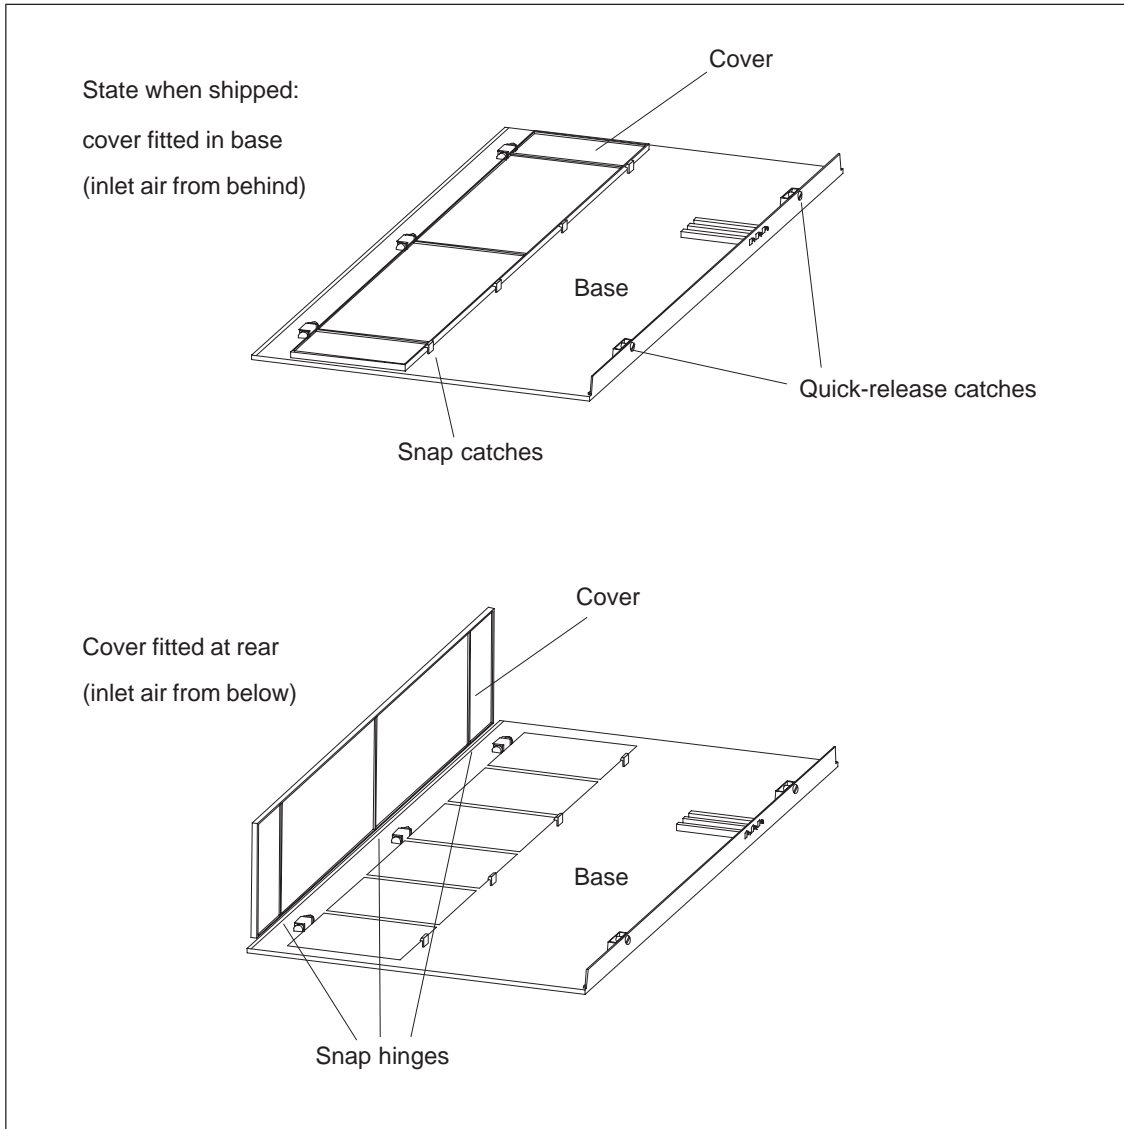

Figure 4-6 Methods of Ventilation
3. The cover is secured to the base with snap catches. Press the cover from below, close to the snap catches, and remove the cover (see Figure 4-6).
Figure 4-6 shows you both methods of influencing the air flow by fitting the cover in the base of the fan subassembly.